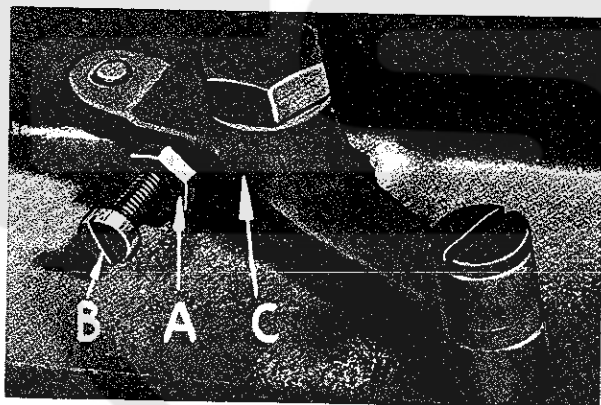
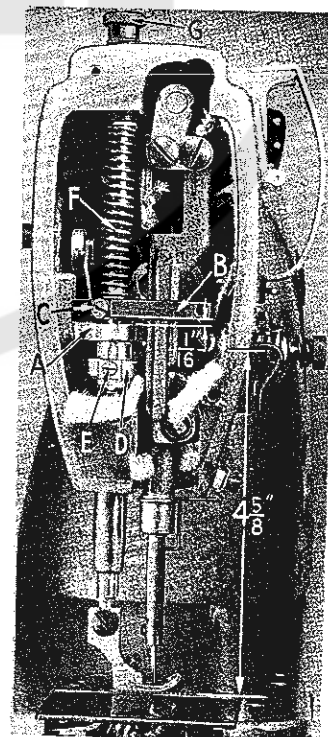
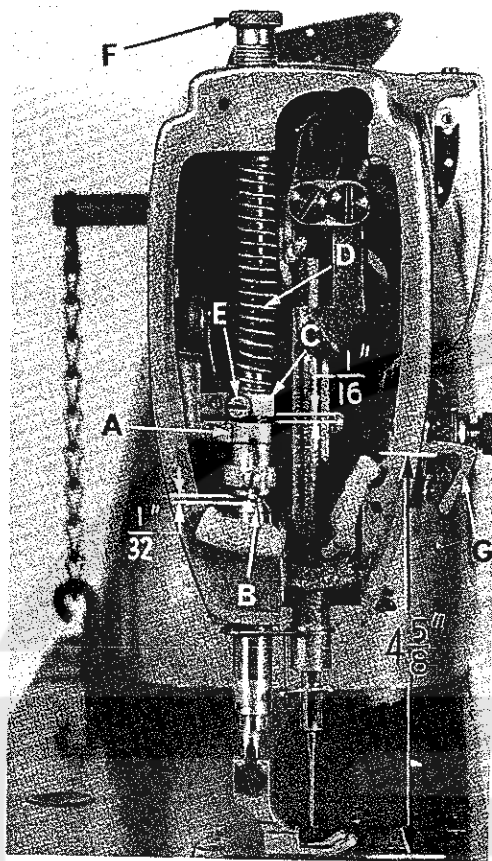

Fig. 15
Fig. 16
Fig. 16A
The presser spring should exert only enough pressure to make the work feed uniformly. To increase the pressure on the presser foot, turn presser spring regulator (G, Fig. 16) in clockwise direction. Turning the regulator counterclockwise decreases the pressure.
The presser bar connection (A, Fig. 16) should be set so that it is about $\frac{1}{16}$ inch below the presser bar guide (B). This is accomplished by tipping the machine back against the rest pin, loosening the lock nut (A, Fig. 15), and relocating the stop screw (B) on the lifter lever bell crank (C). By turning the stop screw to the right or left, the proper setting of the presser bar connection is accomplished. Tighten the lock nut (A) to lock the stop screw in place.
The presser bar connection (A, Fig. 16A) should be set so that it is approximately $\frac{1}{32}$ inch above the lower presser bar bushing (B, Fig. 16A). This is accomplished by tipping the machine back against the rest pin, loosening the lock nut (A, Fig. 15) and relocating the stop screw (B) on the lifter lever bell crank (C). By turning the stop screw to the right or left, the proper setting of the presser bar connection is accomplished. Tighten the lock nut (A) to lock the stop screw in place.
When locating the presser bar guide (B, Fig. 16), the presser foot must rest directly against the throat plate with the feed dog in its lowest position. The guide is set properly when there is a $4 \frac{5}{8}$ inch space between the underside of the needle thread take-up wire and the top of a thin (.085 inch thick) throat plate (Fig. 16).
When locating the presser bar guide (C, Fig. 16A) the presser foot must rest directly against the throat plate with the feed dog in its lowest position. The guide is set properly when there is a $\frac{1}{16}$ inch space between the guide (C) and the presser bar connection (A, Fig. 16A).
To obtain this setting, remove the pressure from the presser spring (D, Fig. 16A) and loosen set screw (E). Tap on presser foot to insure its being down on the throat plate. Set the guide to the $\frac{1}{16}$ inch dimension, center the foot by turning it so that the needle enters the middle of its slot and retighten screw (E) in the guide. Now apply pressure by turning the presser spring regulator (F) clockwise.
Set the needle thread pull-up bracket (G) so that the underside of the wire is $4 \frac{5}{8}$ inches above the throat plate (Fig. 16A).
The tension release should be set so that it will not release when sewing over seams or when the presser foot is raised for back tacking. The adjustment of the tension release cam (D, Fig. 16) and the in and out position of the tension assembly are required for proper operation.
The tension release cam (D, Fig. 16) should now be positioned by loosening set screw (E, Fig. 16) and then raising or lowering the cam to suit the sewing conditions. The average release point is between 1/4 and 5/16 inch of presser foot lift above the throat plate. Tighten tension release cam set screw securely.